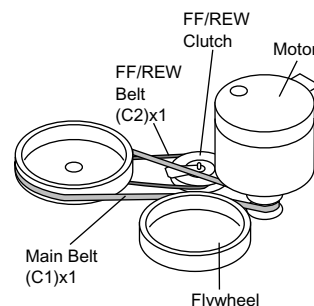

Figure 3
1.3. How to remove the Belt (See Fig. 3)